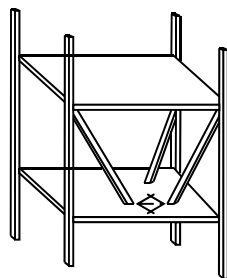

Figure 9
- 4.8.2 The passage should be kept in all directions. That is to say, the vertical cross sections in all directions should not fully be blockaded. For example, the projection of Figure 9 is shown as Figure 10. The dashed lines shown in Figure 10 are the passages.
- 4.8.4 The interior clearance in any direction must be not less than 5 cm (Figs. 9 and 10).